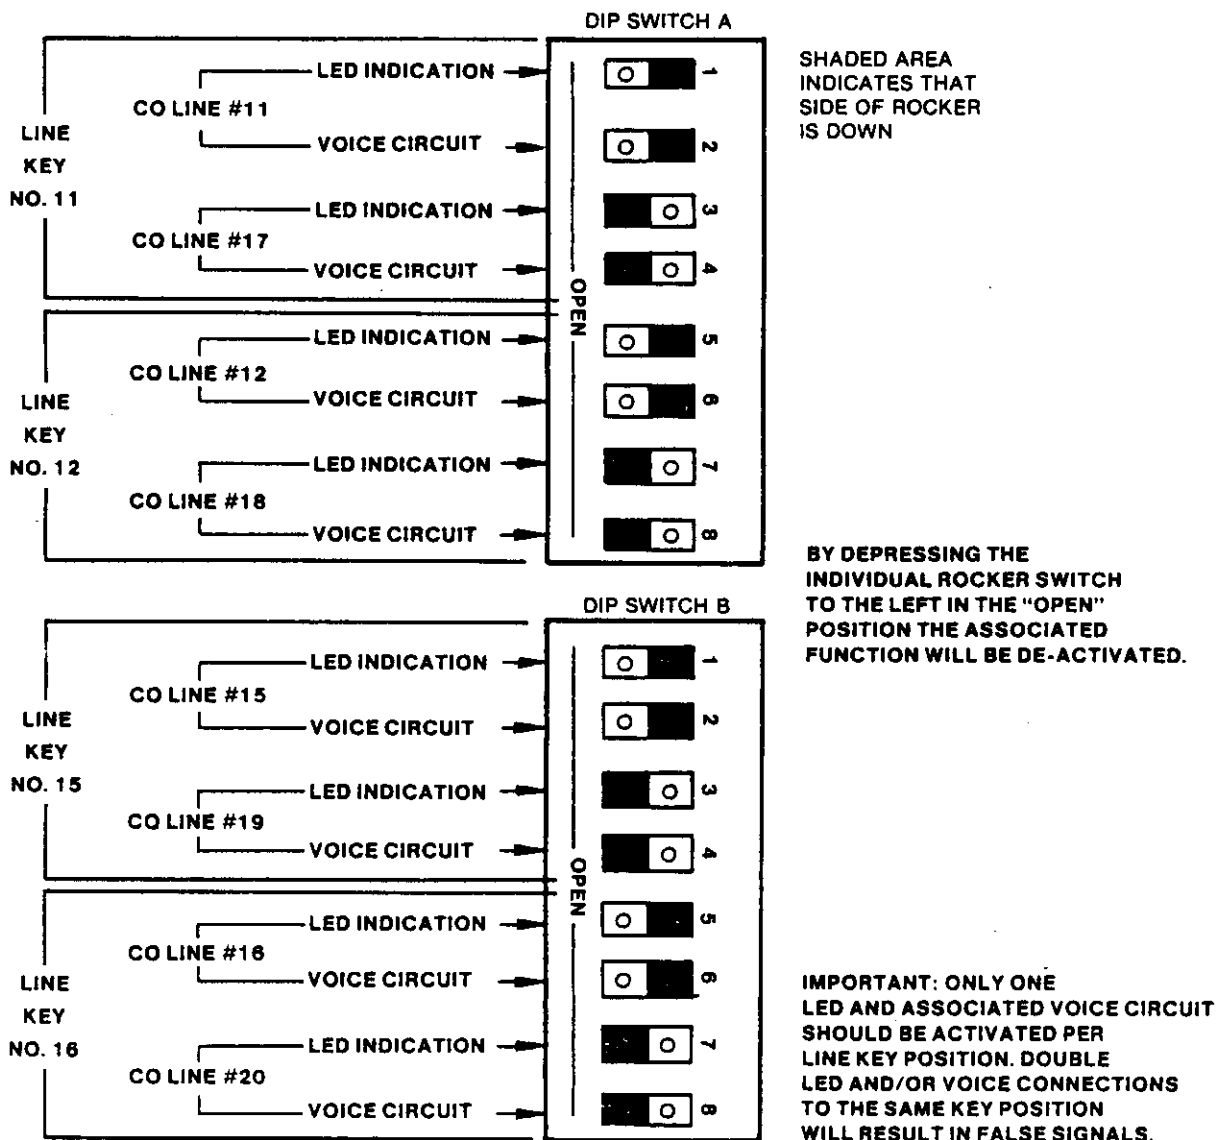

FIGURE 11 — PROGRAMMING FOR NORMAL ACCESS AND OPERATION OF C.O. LINES #1 to #16
5.5.5 Both dip switches on an EKT-102 are, normally, factory set with rockers 1 & 2 and 5 & 6 in the CLOSED position and rocker 3 & 4 and 7 & 8 in the OPEN position as shown in Figure 11. This programming provides for normal access to and appearance of C.O. Lines #1 to #16 on the EKT.